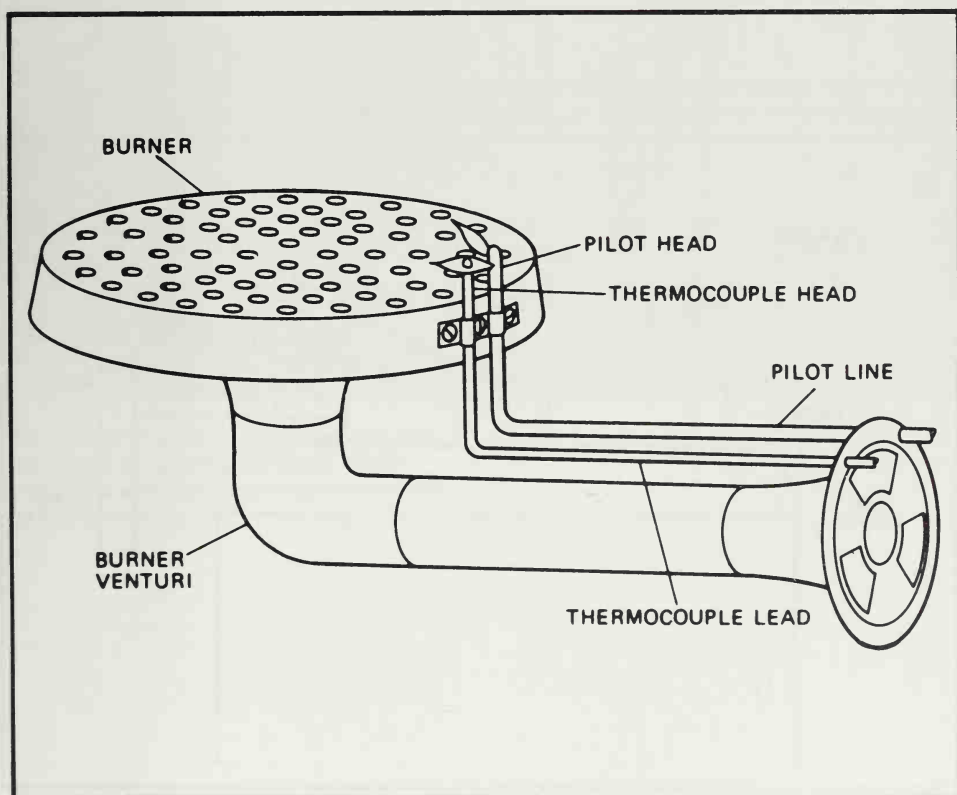

Figure 6. The gas-burner assembly in a water heater is similar to one in a gas clothes dryer. Let the gas company handle repair of this unit.
- **Forced-air systems**—One reason for a reduced heat condition in a forced-air system is a clogged air filter (Figure 6). If you have a spare
Figure 6. If the furnace filter clogs with dirt, delivery of heat will be curtailed. It is best to replace a dirty filter; at least take it outside and knock some dirt out.
The gas-burner unit in a water heater is practically the same as the one in a gas clothes dryer (Figure 6). Furthermore, the same advice applies to gas-fired water heaters as applies to all other appliances which use gas:
A selection switch is included where an oven performs more than one function, such as broiling and baking, or if the range has more than one oven. Automatic timing clocks are connected to switches and can be tested for failure according to instructions provided in Figure 6.
Figure 6. Use this to test automatic timer. Voltage across 1 and 6 should be 115 v. If not, check for blown 15-amp fuse. If fuse is OK and motor drive doesn't turn, replace motor. Repair or replace timer if voltage is not 230 v. across terminals 1 and 4, and across 2 and 3 with timer set on manual and when timer has turned oven on in automatic mode.